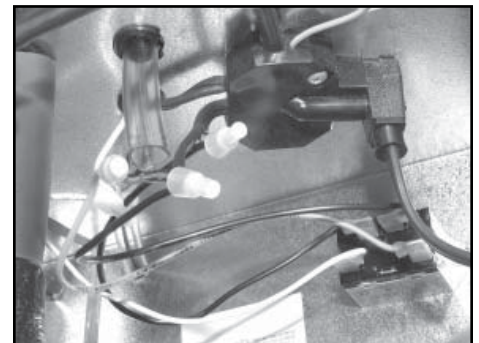

Figure 9.
F. Connect both ends of the previously cut ribbed wire with a 14ga loose black wire using a supplied Sta-con. Connect other end of wire to the normally open contacts of the relay. (See figure 9 & 14 for the next 3 steps).